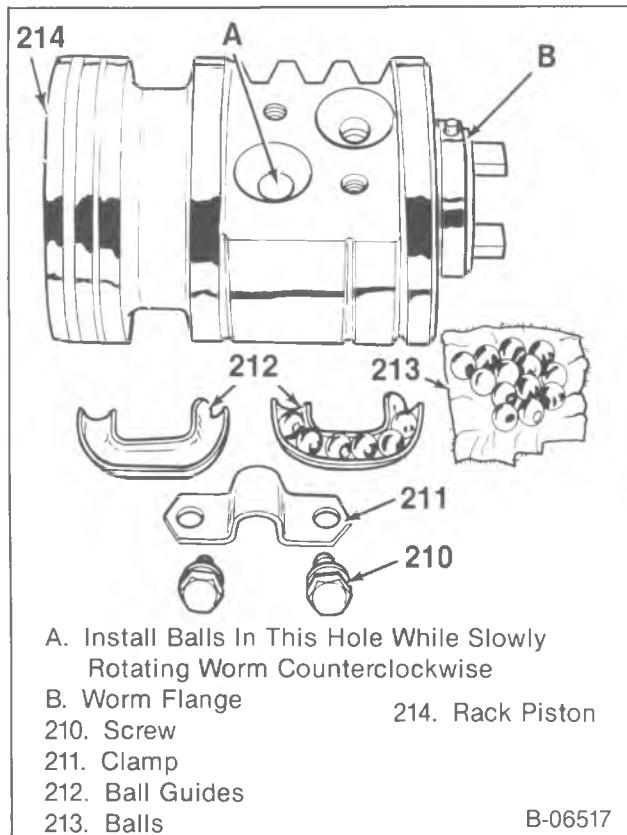

Figure 13—Installing the Balls into the Rack Piston
2. Balls (213), alternately by color, in the rack piston (214) (figure 13). Use J 21552 in the rack piston.